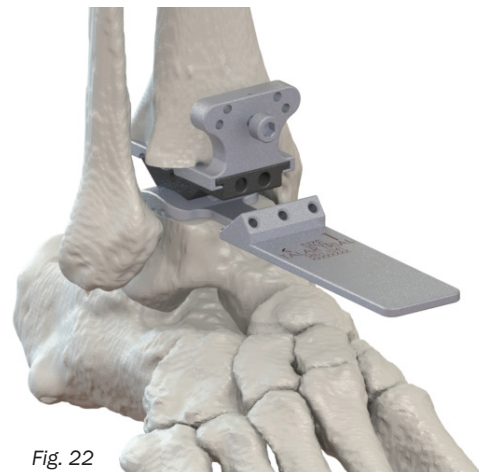

Fig. 22
- 2.4 The Trial Assembly sets relative alignment between the tibial and talar components. Use range of motion to ensure the assembly tracks to the patient's kinematics. Ensure proper axial rotation noting the direction of the talar handle (Fig. 22).